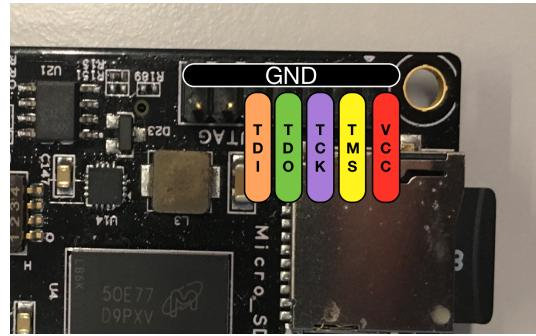

Figure 15: JTAG Pinout
- Connect the programmer on the JTAG port. Make sure the connector matches the pinout from Figure 15.